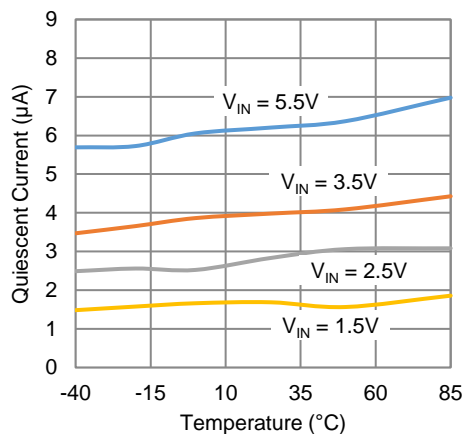

**Figure 1. Timing Diagram**
10.  $t_{DELAY\_ON}/t_{DELAY\_OFF}/t_R/t_F$  are defined in Figure 1